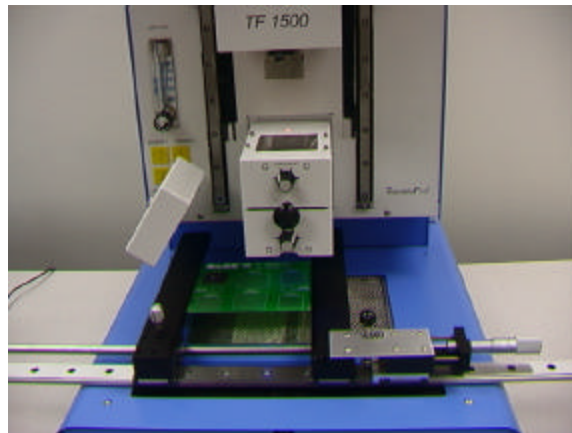

Figure 16
- vii. Pull the camera out. (Figure 16)